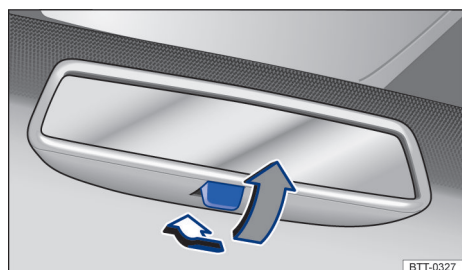

Fig. 73 On the windscreen: manual anti-dazzle interior mirror
- Pull the lever back to select the anti-dazzle function → Fig. 73